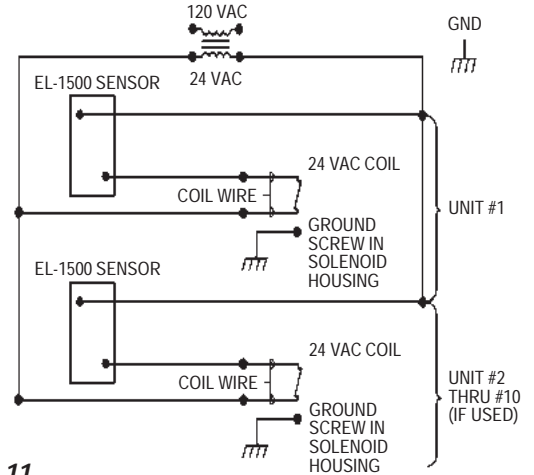

Figure 11
Step 7 — Electrical Hook-Up (Figure 11)
Be certain power is OFF to prevent damage to electrical components. Connect Sensor to Transformer and Solenoid Coil EXACTLY as shown in Figure 11 and instructed below.
- A. **EL-1500 Sensor is wired incorrectly** — Rewire Sensor and Valve properly (refer to Figure 11).